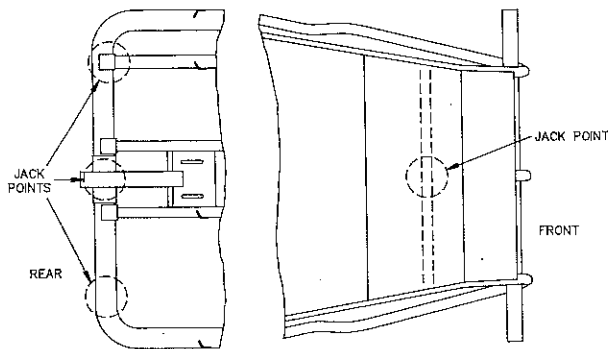

FIGURE 5
2. Grease the spindles with a general purpose grease using a standard grease gun. Grease should be added until it is coming out of the ends of the spindles. Wipe off excess grease. See Fig. 5. **NOTE:** Keep area clean and free of dirt.